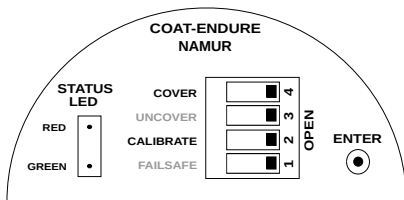

Figure 52: Saving Calibration
- Set the CALIBRATE and COVER switch back to OPEN position as shown in Figure 52.
- Open the housing cover and set the CALIBRATE and COVER switch back to OPEN position as shown in Figure 52.